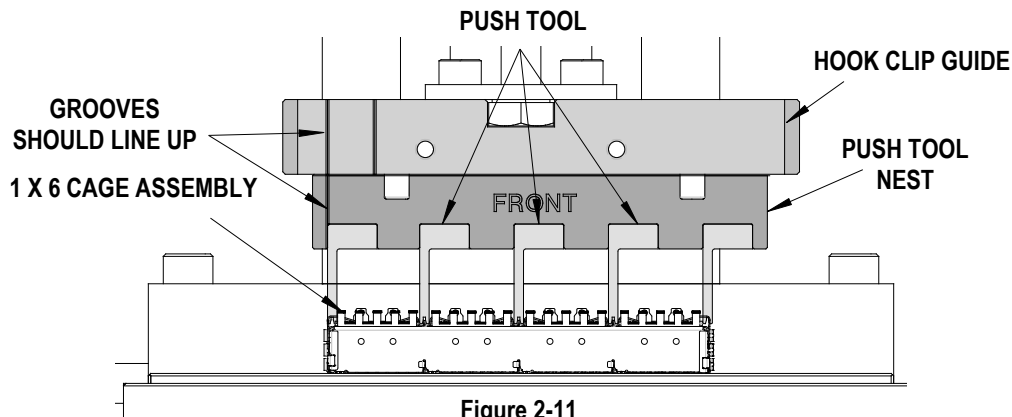

Figure 2-11
3. There is a vertical groove on the Hook Clip Guide and the Push Tool Nest that should be aligned. See Figure 2-11.
4. Make sure the two (2) M5 screws are placed into holes that are marked "1X 6" on the top of the Hook Clip Guide.